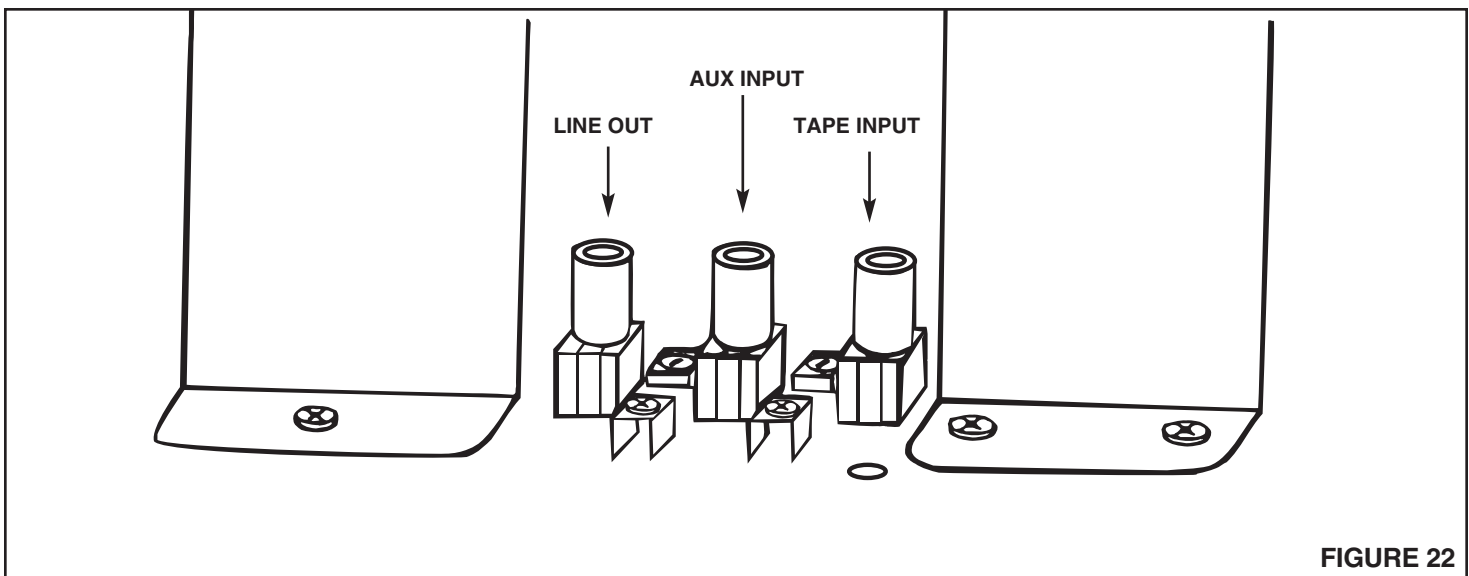

FIGURE 22
1. Refer to **Figure 22**. To connect an external audio source (NuTone Model CP-95 cassette, stereo system, VCR, TV, etc. with low level audio output) to the IM-4406 master station, locate the **TAPE** and **AUXiliary** inputs on the upper center of the master station's main circuit board.